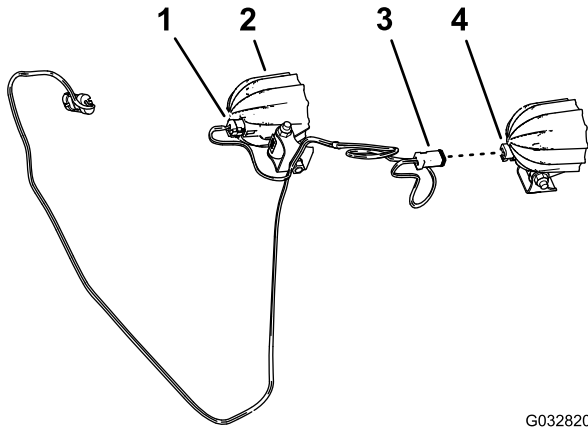

Figure 10
1. Connect the 2-pin of the LED light into the 2-socket connector of the LED light harness (Figure 10).
2. Repeat step 1 for the other LED light and the other 2-socket connector of the harness (Figure 10).